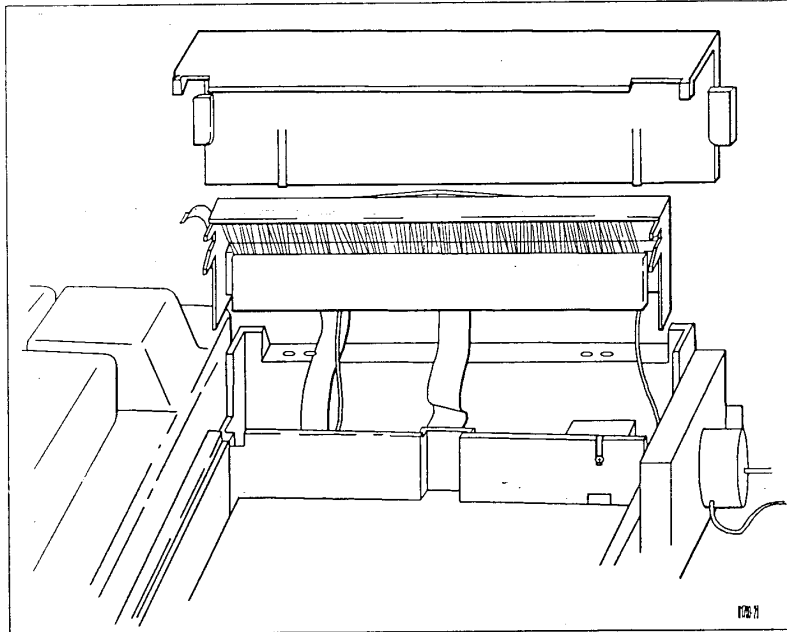

Figure 7-16. Removing the Printhead Cover and Printhead.
7. Remove the printhead cover as shown in Figure 7-16.
1. From the inside of the empty paper compartment, insert a small, flat-bladed screwdriver into the square hole (see Figure 7-16) on the surface of the plastic printhead housing.